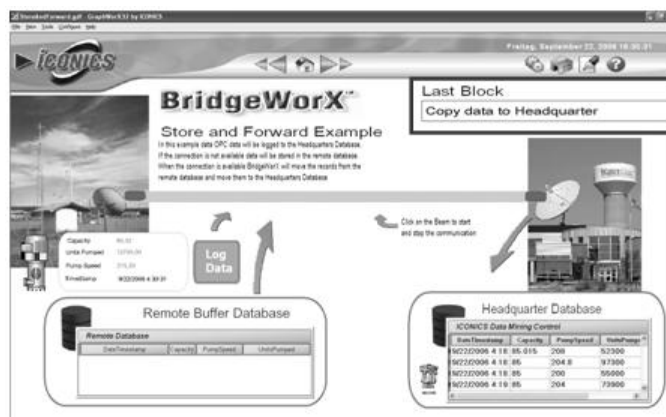

Figure L6.5 - Last Executed Block
8. In the **StoreAndForward.gdf** you will see the last block name appear in the upper right corner, as shown in Figure L6.5.